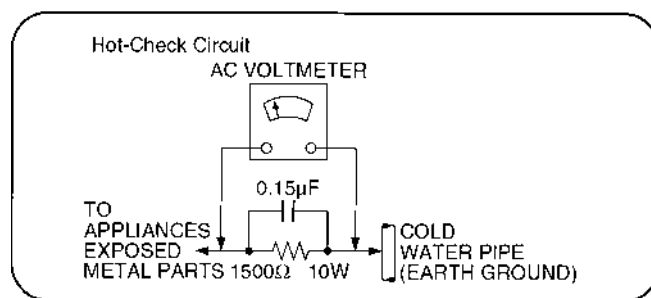

Figure 1
1.1.2. Leakage Current Hot Check (See Figure 1.)
2. Connect a 1.5kohm, 10 watts resistor, in parallel with a 0.15 μ F capacitors, between each exposed metallic part on the set and a good earth ground such as a water pipe, as shown in Figure 1.